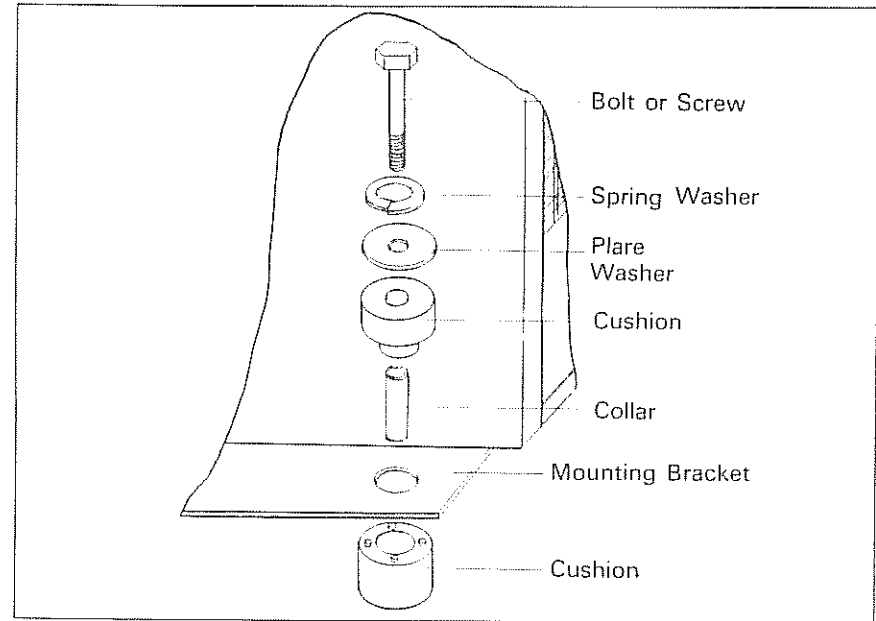

Fig. 6
2. The compressor/condenser case can be easily mounted to the floor mounting brackets and by use of supplied screws or bolts, cushions, collars, plane washers and spring lock washers. (Fig. 6) Place unit to insure accessibility and good circulation (see paragraph on location).